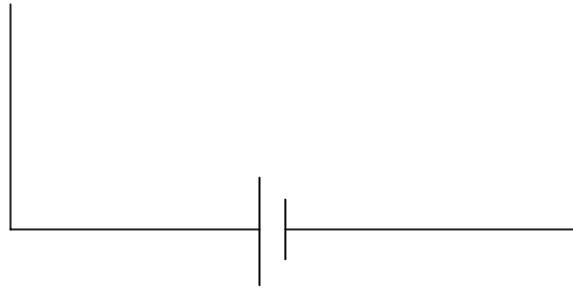

Fig. 1
- (b) (i) Three resistors connected in series are required to complete the circuit diagram in **Fig. 1**. Complete the circuit diagram as described. [3]